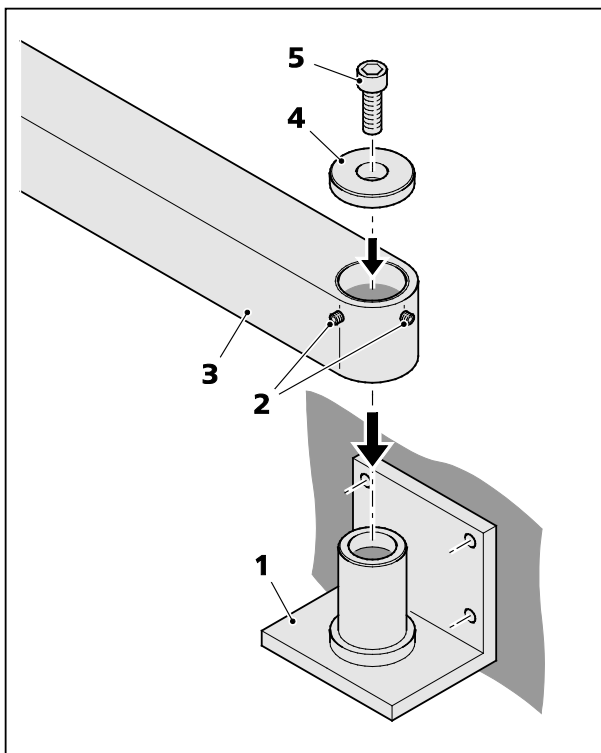

Fig. 4 Fastening wall mount for stand U to the wall
- The wall mount (Fig. 4/1) must be properly fastened at the appropriate point with dowels and screws. Tighten the screw connections.
- Slightly loosen clamping screws (Fig. 4/2) on the traverse (Fig. 4/3), if necessary.
- Insert the traverse (Fig. 4/3) onto the pivot pin of the fastened wall mount (Fig. 4/1).
- Insert clamping screws (Fig. 4/2) and tighten as required. The tighter the clamping screws, the more the mobility (ease of motion) of the pivot joint is inhibited (up to secure hold).
- Insert lock washer (Fig. 4/4) with screw (Fig. 4/5) into the traverse from the top and screw it down (Allen key 8 mm).